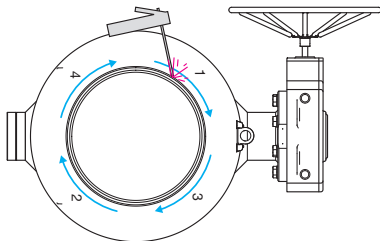

Figure 4. Welding the seams.
- Then the seams between the bridges are welded as shown in Figures 4. and 5. Welding order: 1-2-3-4.